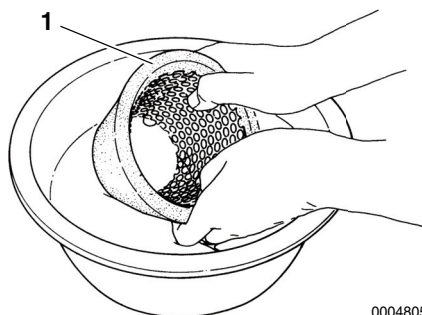

Figure 10
2. Remove element (**Figure 10, (1)**). Clean element and housing with a neutral detergent.